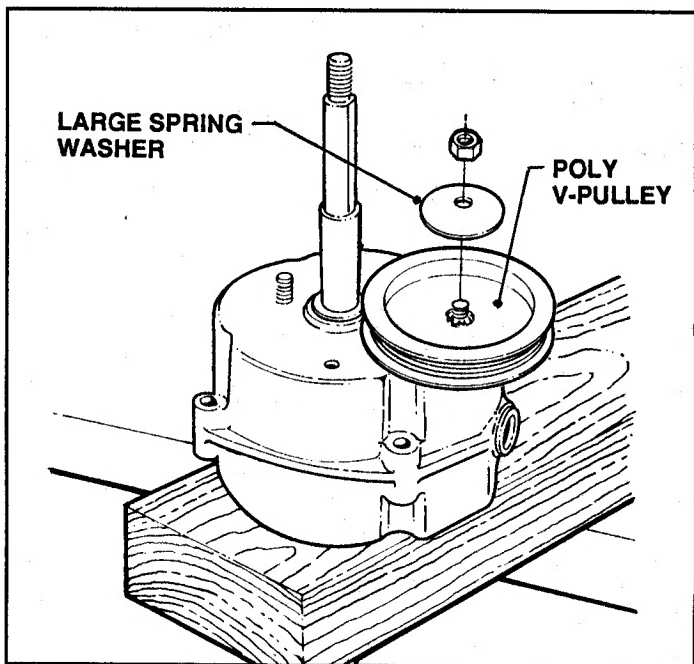

FIGURE 4.21
19. Install poly v-pulley, large spring washer and retaining nut. See Figure 4.21.